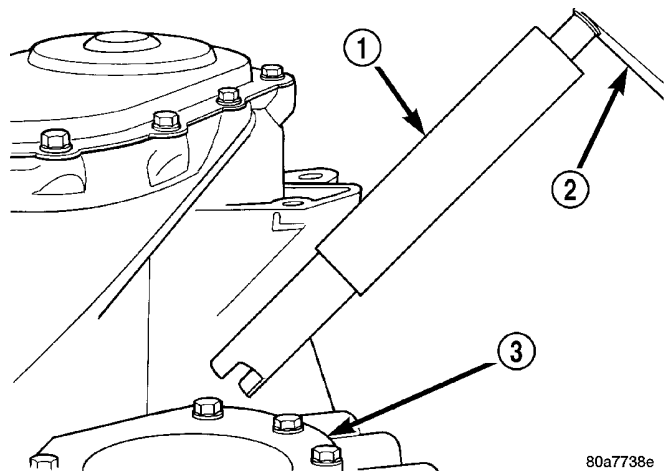

Fig. 88 Tool L-4436 and Torque Wrench
(2) Install Tool L-4436A into the differential and onto the pinion mate shaft (Fig. 88).